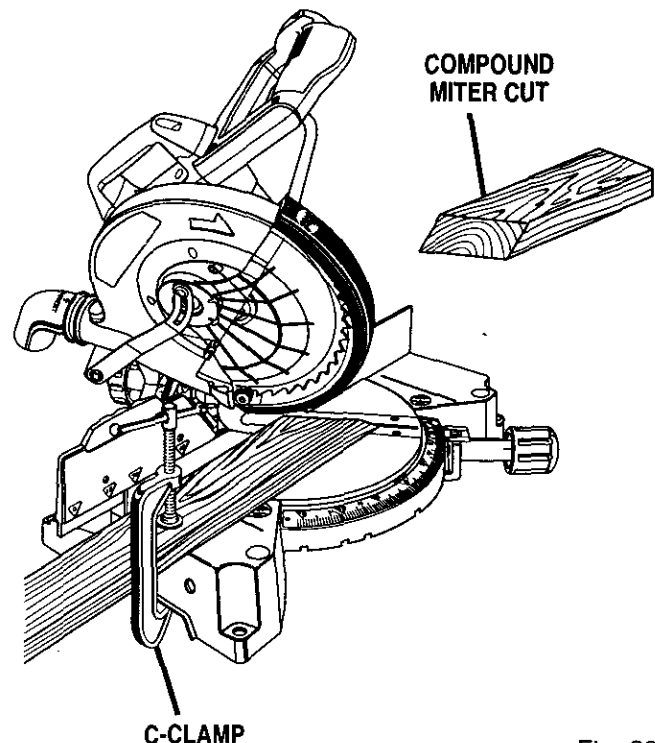

Fig. 29
- Slowly lower the blade into and through the workpiece. See Figures 29 and 30.